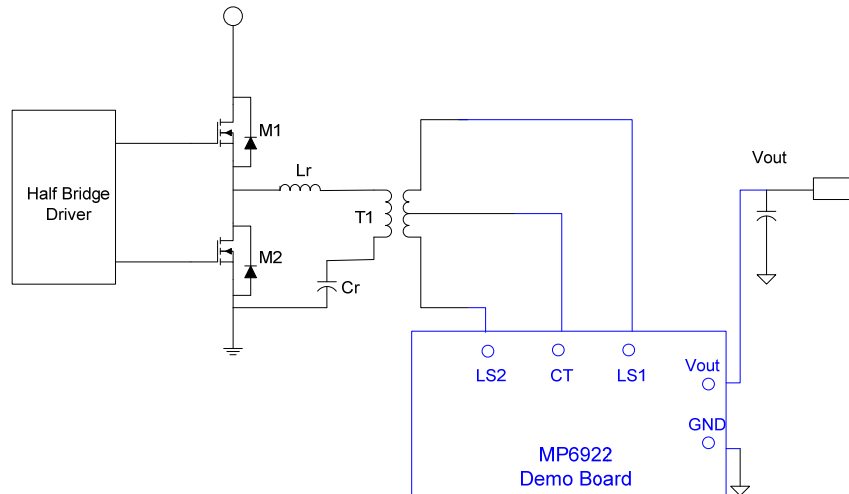

Figure 6—How to connect the EV6922DS-00A
2. Connect the center-tap and other two secondary windings of transformer as the Fig.6 shows.
3. Connect the Vout and GND pins on MP6922 demo board as the Fig. 6 shows.